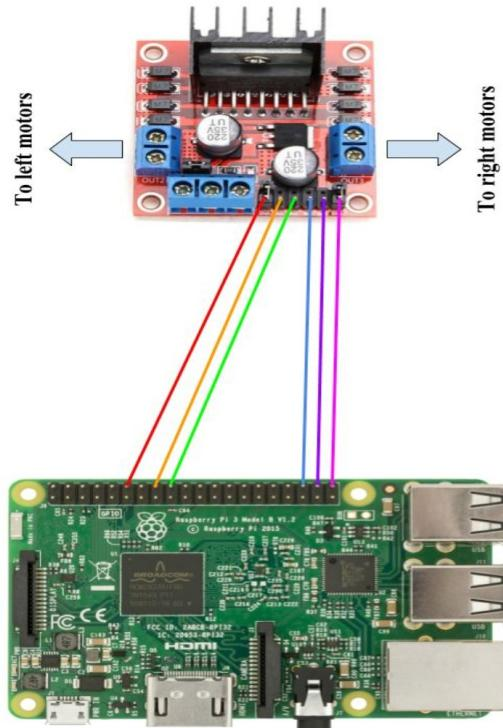

Figure 26: Circuit diagram for assigning GPIO pins to control the motors
Step 4: Once the power supply to batteries and PI have been connected, you can now connect the output pins that will control the motors. Using the female-to-female jumper cables which you have already threaded through the top plate of the buggy, connect the raspberry pins to the motor controller board according to the diagram in figure 26. Again, ensure you attach the correct pins, otherwise the motors will not respond to commands.
use blue tack to attach it the top plate battery pack as show in figure 26. If you don't have blue tack, it should just sit there on it's own.